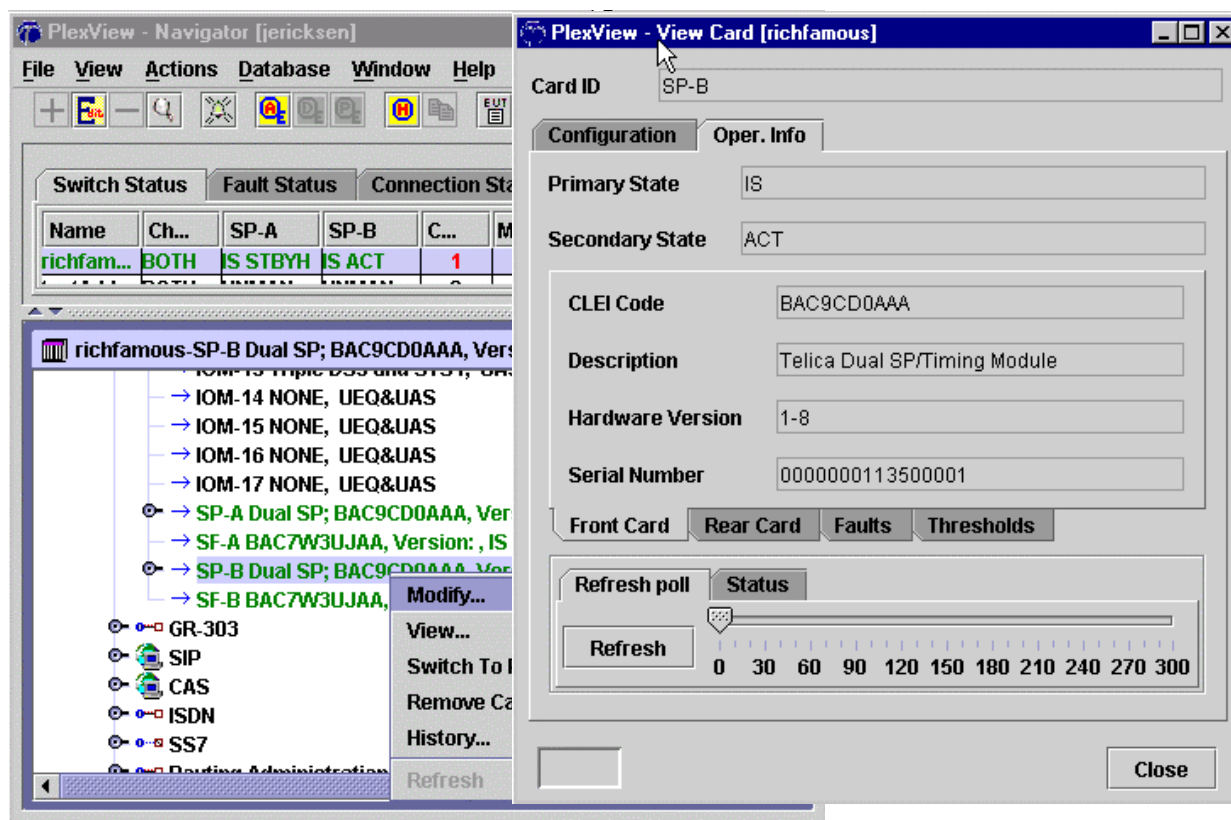

Figure 3. Retrieving SP Operational Information
**20.** Double-click the switch to select it for the main panel and then double-click *Cards*. Right-click the desired SP, select *View* and then click *Oper. Info*. See Figure 3.